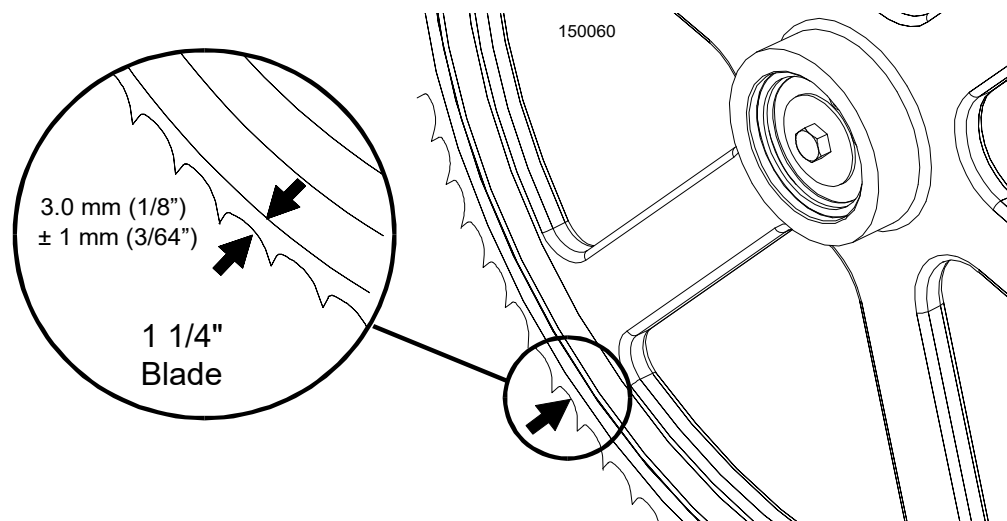

FIG. 5-7
**See Figure 5-7.** The horizontal tilt of the blade wheel should be adjusted so that the gullet of an 1-1/4" blade is 3.0 mm out from the front edge of the wheel ( $\pm 1.0$  mm).